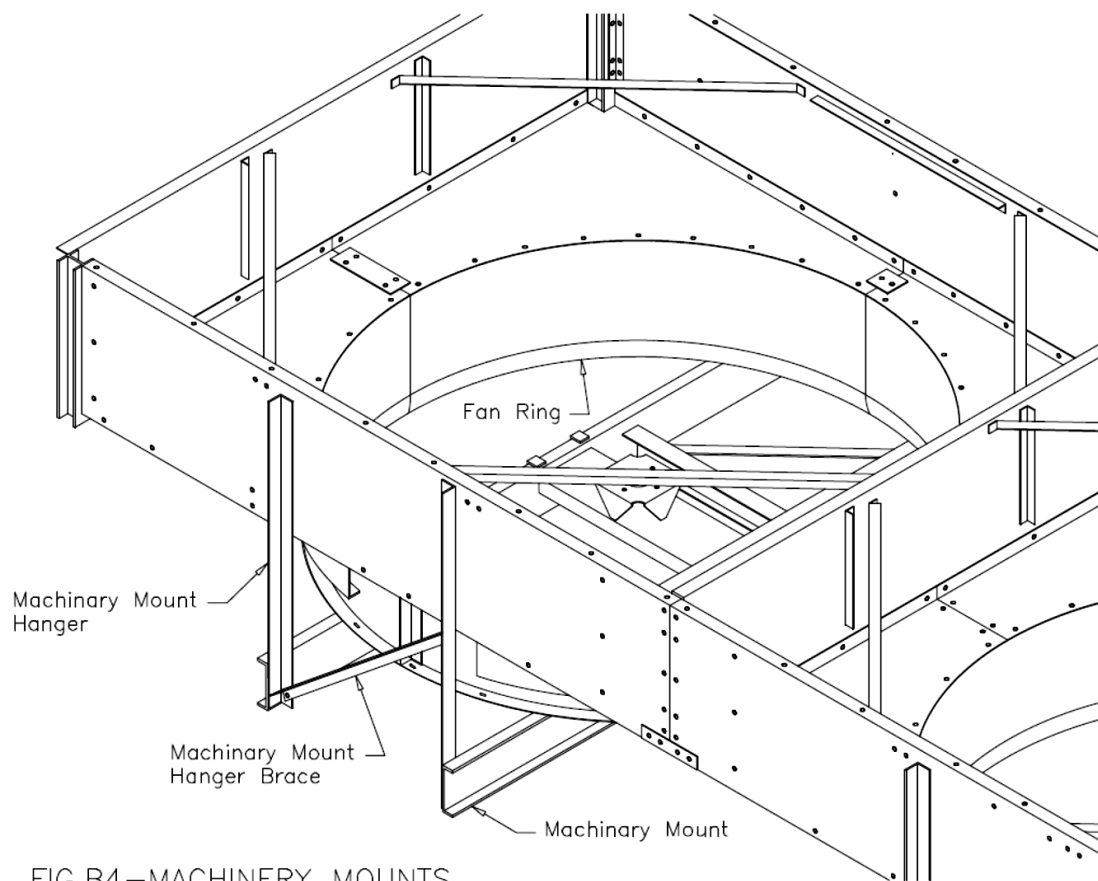

FIG.B4 –MACHINERY MOUNTS
5. Attach machinery mount to fan ring. Attach machinery mount hangers to machinery mount and side panels. Attach machinery mount hanger braces, if provided. See Fig.B4.